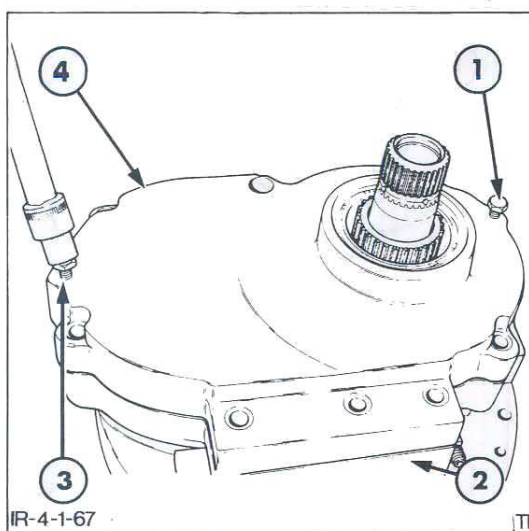

Figure 76
1. Install the two jacking bolts, previously used to remove the oil distributor assembly from the transmission case, into the cover bolt holes, Figure 76. Tighten the two bolts equally until the front cover is released from the housing. Remove the two bolts.